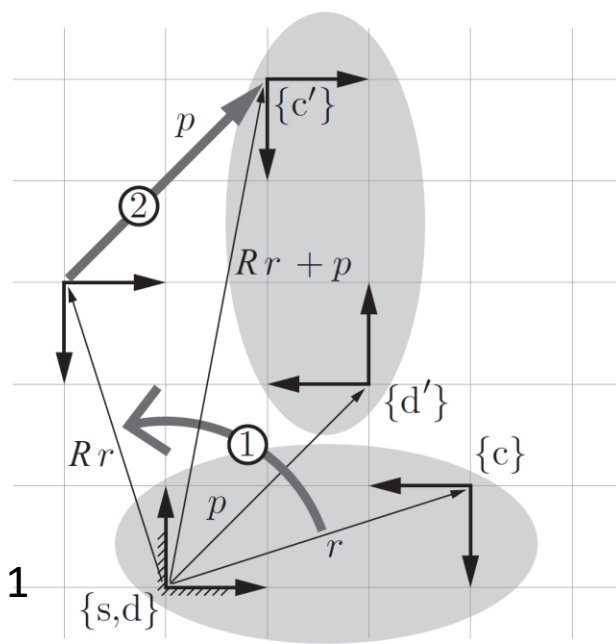
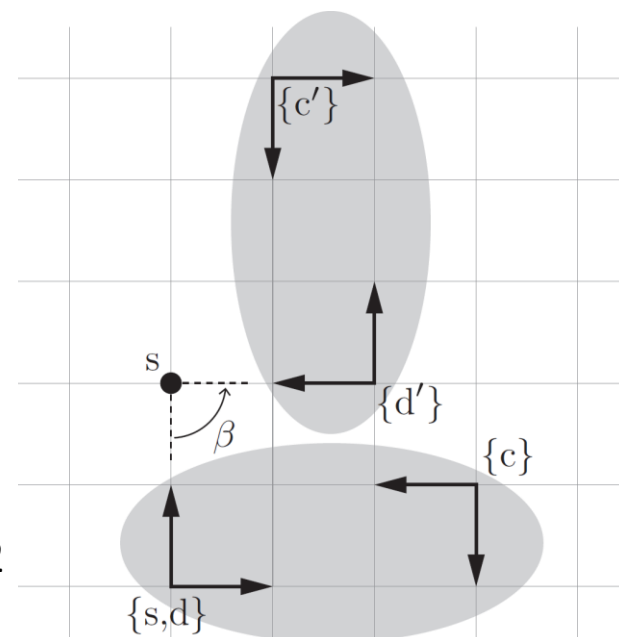

Figure 1
Figure 2
The displacement in Figure 1 (rotation ① + translation ②) can be viewed as a pure rotation of $\beta = 90^\circ$ about a fixed-point s as shown in Figure 2.